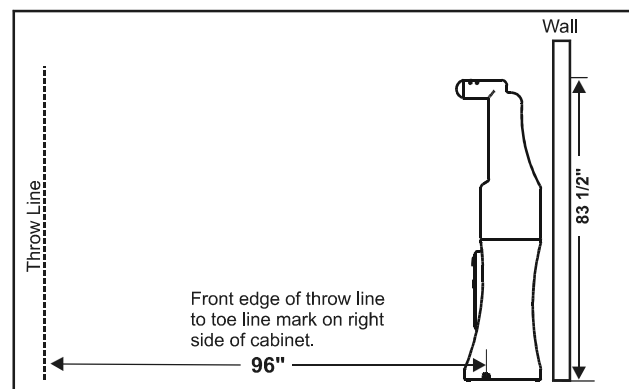

Figure 1: Side view of play field
- Place the throw line Eight feet (96”) from the center of the bullseye. (See Figure 1)